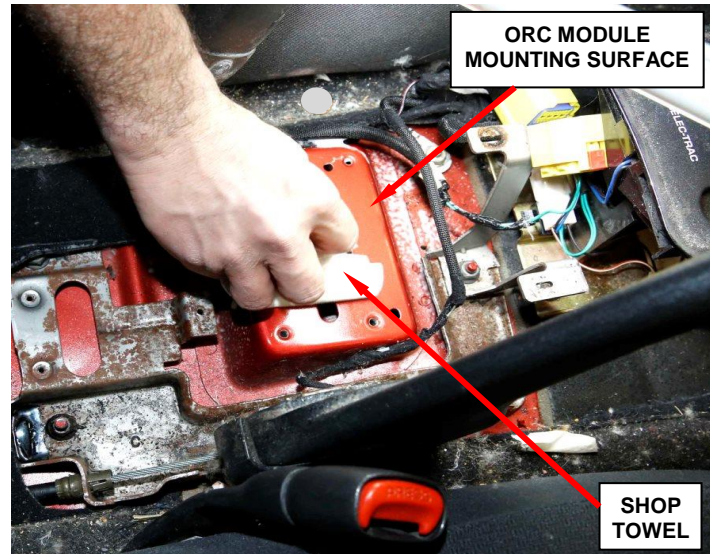

Figure 17 – Clean ORC Module Mounting Surface
5. Using Mopar glass cleaner or equivalent, clean the ORC module mounting surface (Figure 17).